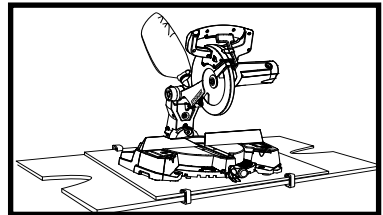

Fig 9
2) For portable use, place the saw on a 20mm(approx) thick piece of plywood. Bolt the base of the mitre saw securely to the plywood using the mounting holes on the base. Use G-clamps to clamp this mounting board to a stable work surface at the worksite. (See fig. 9)